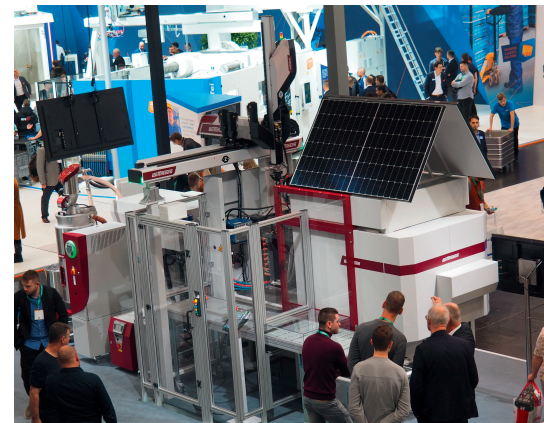

Fig. 1. Twin-track drives: the power electronics and drives of the machine are supplied with DC and the ancillary equipment with AC.
It doesn't get cheaper than this. That could be the title of a concept study, which **Wittmann Battenfeld** had drawn up together with its customer **Wago** and presented at the trade show on the Rhine. An eye-catcher for visitors to the booth was a solar panel, which was symbolically mounted on an all-electric injection molding machine and strikingly set the theme, namely operating an injection molding machine with direct current from renewable solar energy (**Fig. 1**). It all makes even more sense if you know that the servo motors installed in electrical machinery require direct current in any case. Technically, that means that the generally available alternating current (AC) must be converted into direct current (DC) by means of frequency converters. In the process, a (small) proportion of the energy is lost.